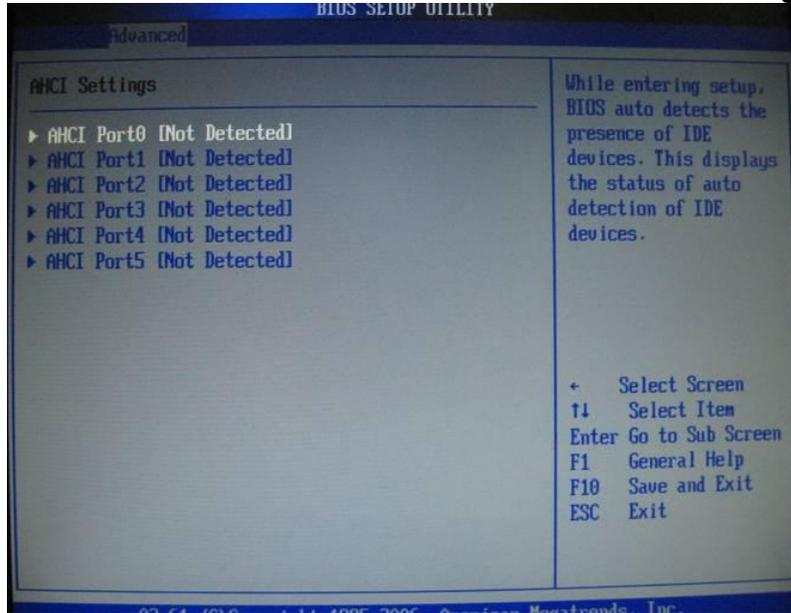

Figure 8-27 ACHI Configuration Page
17. **No Change** on the **ACHI Configuration** page (Figure 8-27). Then press **Escape** to return to **Advanced Settings** screen.